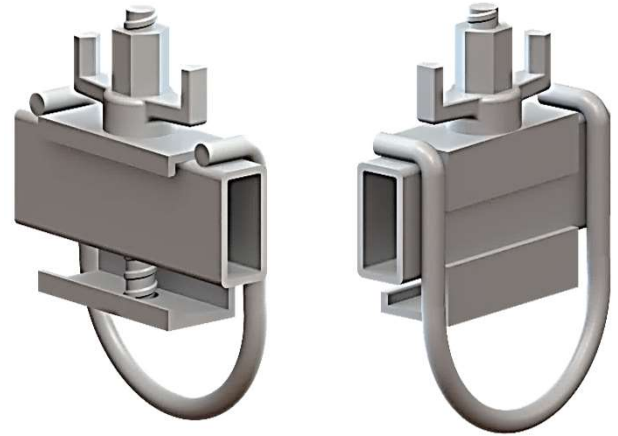

Figure 1. Personal Tie-Off Bracket with double point connections, fits all horizontal panel rail geometries
- When placing Personal Tie-Off Bracket (Figure 1) on a formwork gang, the maximum spacing is 1 feet from center to center.